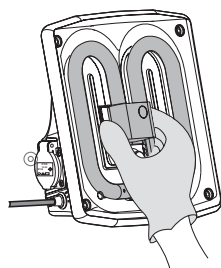

Fig. 15
5.1.3 To unhinge the used light, hold the middle section and pull it out. (Fig. 15).